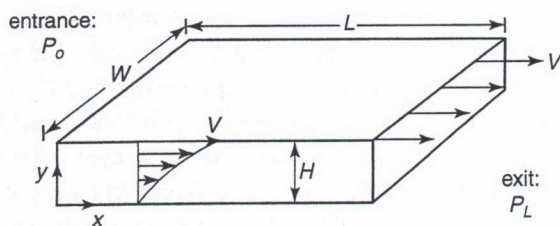

Figure 6.21
41. *Flow Problem: Combined backward pressure and forward drag of a Newtonian fluid in a slit.* Calculate the velocity profile for the flow shown in Figure 6.21. The flow is steady flow of an incompressible Newtonian fluid between two wide plates. The flow is driven forward by the motion of the top plate (i.e., the top plate moves in the x -direction at speed V) and the flow is opposed by the pressure, which is slightly higher at the exit, P_L , than at the entrance, P_0 , $P_L > P_0$. Neglect the effect of gravity. Use the coordinate system given in Figure 6.21.